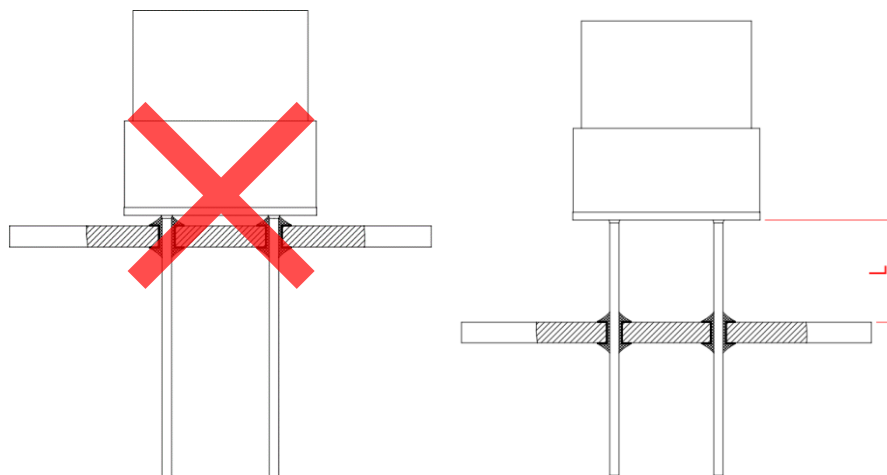

Fig. 4: Use the minimum distance L between TO base plate and soldered joints from **Tab. 3**.
- Use the maximum soldering times for the given maximum soldering temperatures T and the distance L between the soldered joint and the TO base plate shown in **Tab. 3** and **Fig. 4**.